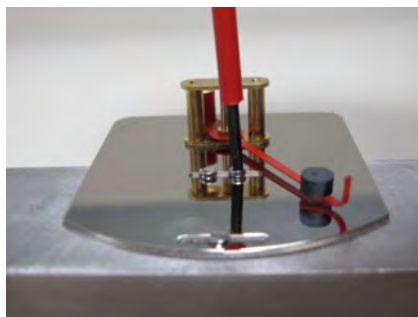

Fig. 62
- 13.** ▶ Set the display base plate on the device body and lightly tighten the mounting screws, so that the base plate can still be moved (Fig. 62). Make sure that